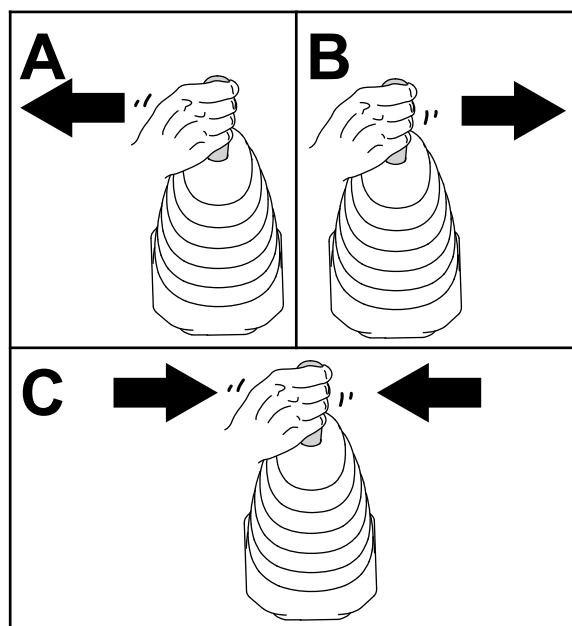

Figure 51
4. Move the loader joystick to the left, right, and back to the NEUTRAL position to relieve pressure at the hydraulic couplers (Figure 51).